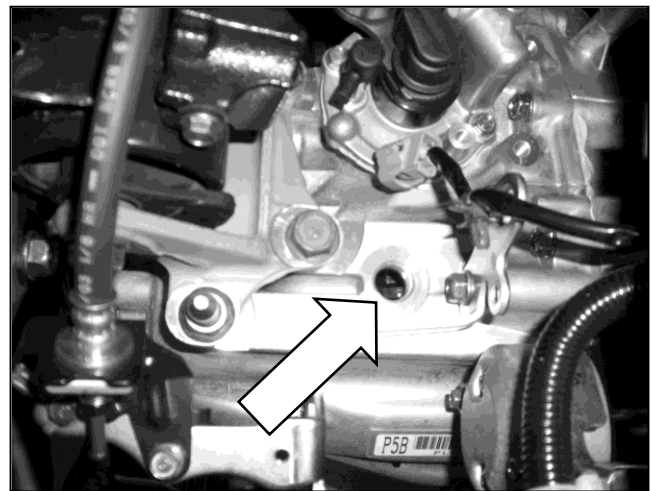

Fig. 6
- g. Disconnect the back-up light switch connector. Use a 27mm deep socket to remove the back-up light switch from the transmission. Be careful not to lose the washer. Set switch aside in a safe place. Cover the back-up light switch hole to prevent foreign objects from falling into the transmission. **(Fig. 6)**